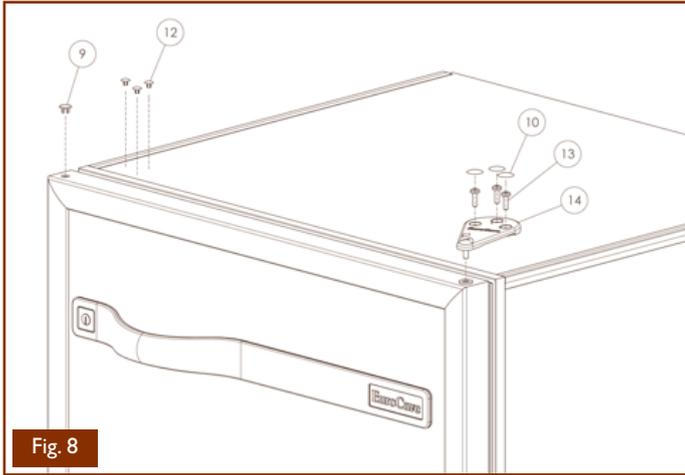

Fig. 8
- Remove the grommets (9-10-12) gently using a fine blade, see Fig. 8
- Loosen the three screws (13) using the Torx "T25" tool, see Fig.8.
- Remove the upper hinge (14), see Fig. 8.